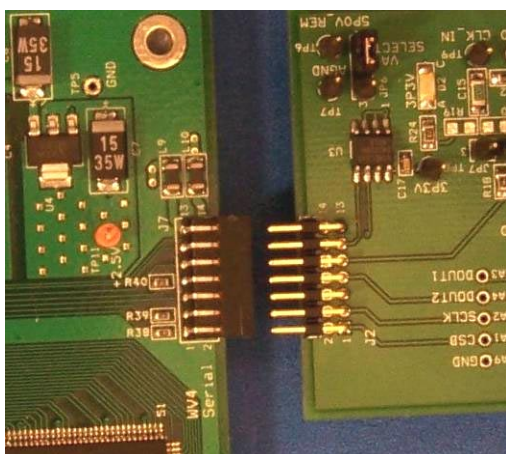
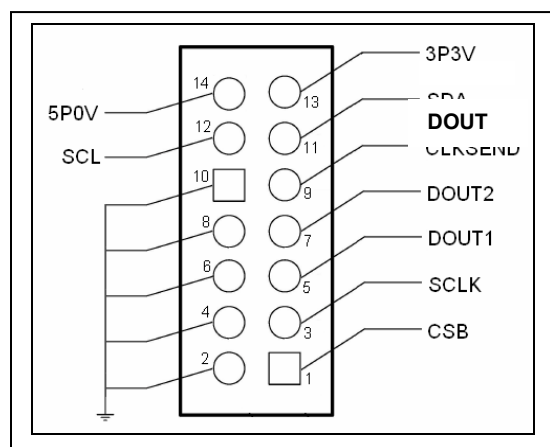
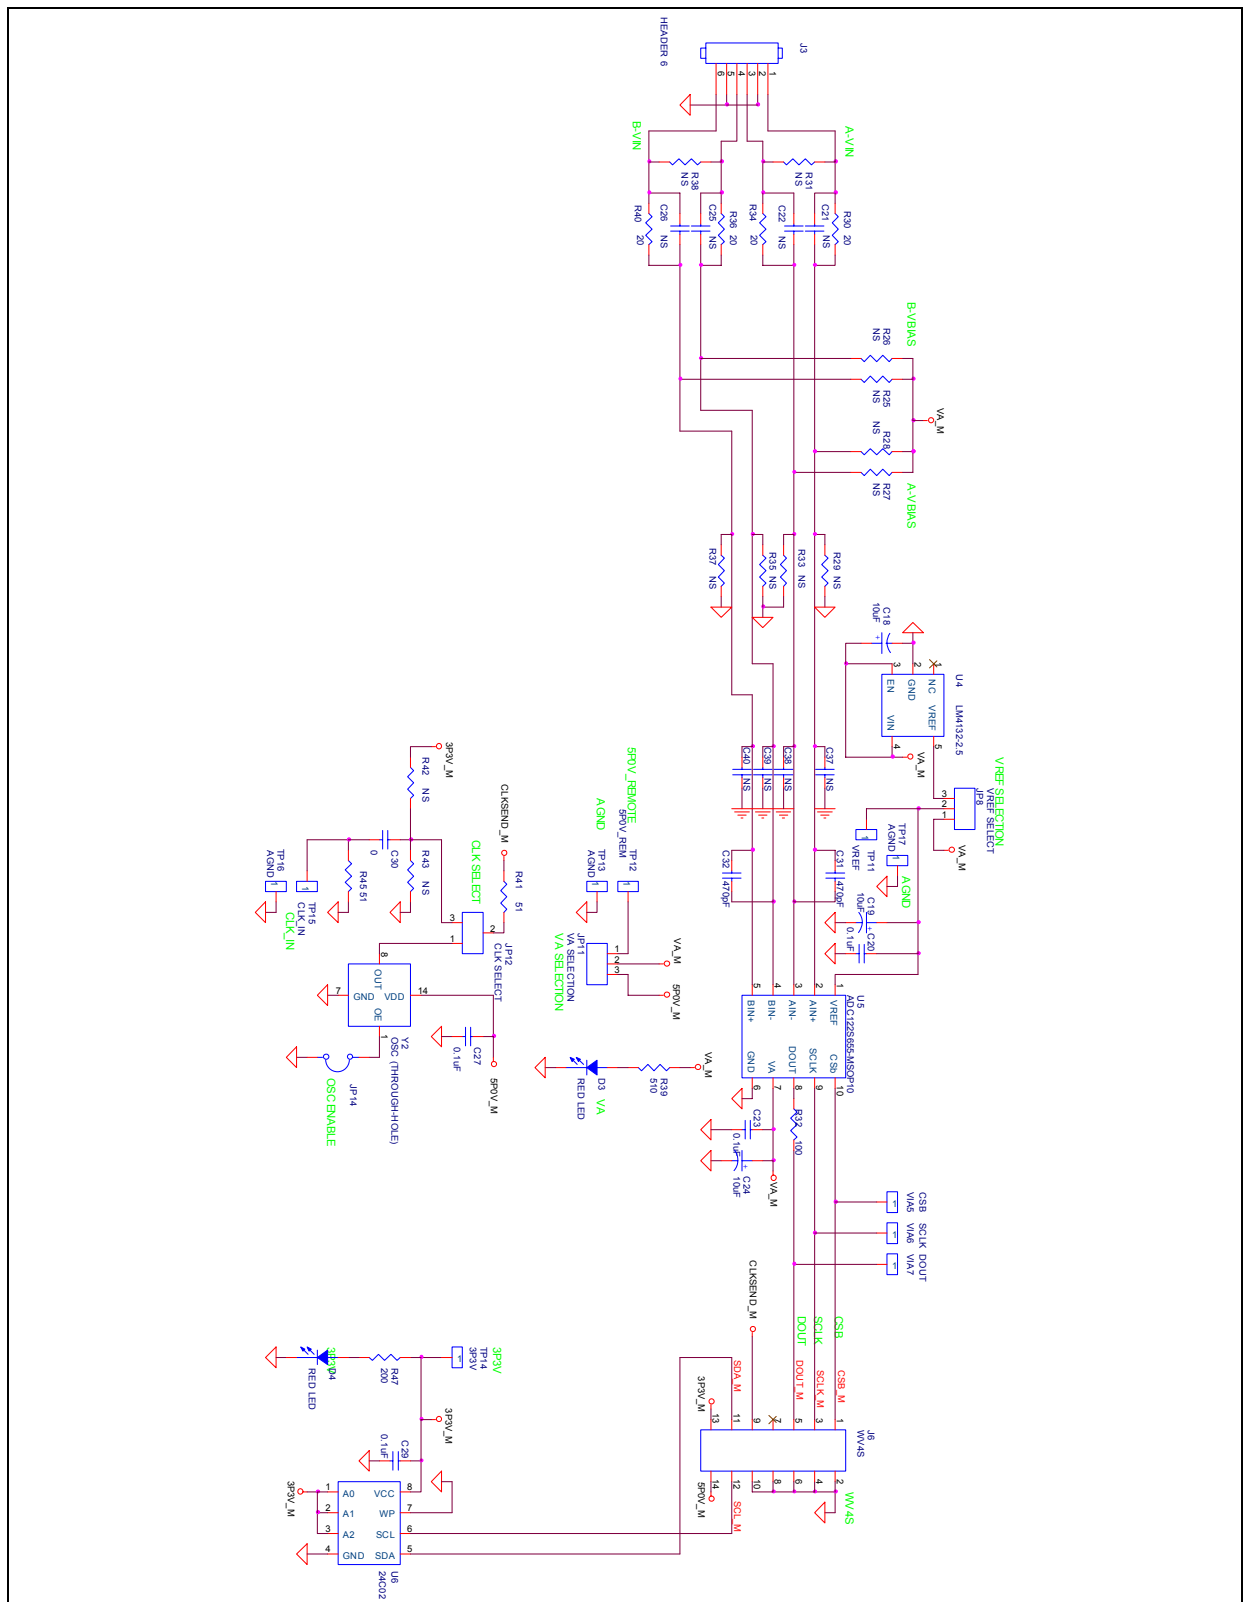

Figure 4: WV4 to ADC122S625 Connection
Figure 5: J6 (WV4S) Header Pin Out
Figure 10: ADC122S625 Evaluation Board Schematic
7. Apply the signals to control the SPI interface at J6 or VIA5 to VIA7. See the evaluation board schematic (*Figure 10*) or the J6 header pin out (*Figure 5*) for more details.
3. Connect the **J6** header on the ADC122S625 evaluation board to the **J7** WV4 serial connector on the WV4 board. Refer to *Figure 4* for the serial connection and *Figure 5* for the J6 header pin out.
Table 1 describes the function of the various jumpers on the ADC122S625 evaluation board. The evaluation board schematic is shown in Figure 10.
The ADC122S625 takes two input signals (channel A and channel B) and outputs to a single data output line (DOUT). The output format is 2's complement with channel A's conversion result followed by channel B's conversion result. The DOUT can be monitored at VIA7 or pin 5 of J6. In computer mode, the DOUT is by the use of the WV4 board and WaveVision 4 software. See the Evaluation Board schematic (Figure 10) and ADC122S625 datasheet for further details.